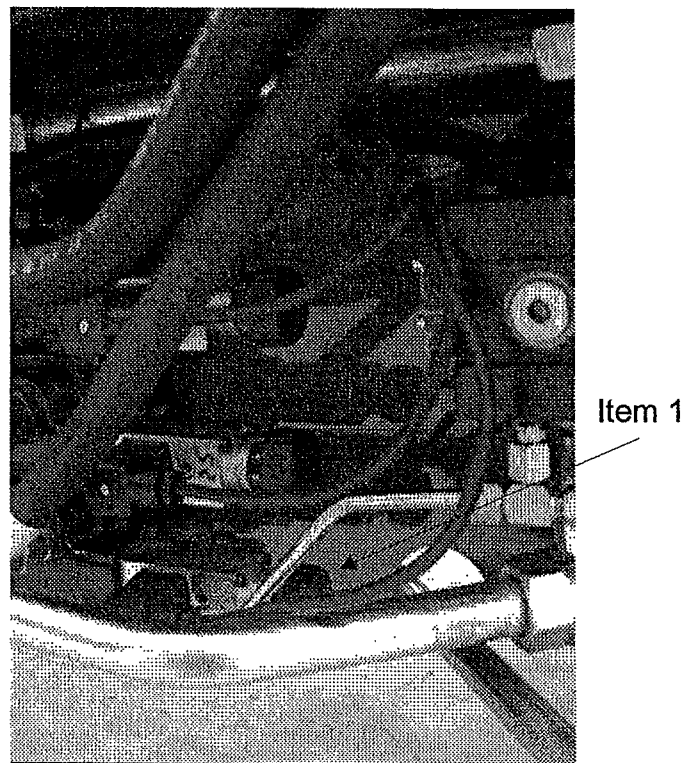

Fig 7.23
The valve is the lowest one in a bank of three (Fig 7.23 item 1). This valve is also used when the transfer star unit is swapped for the optional picking off band.